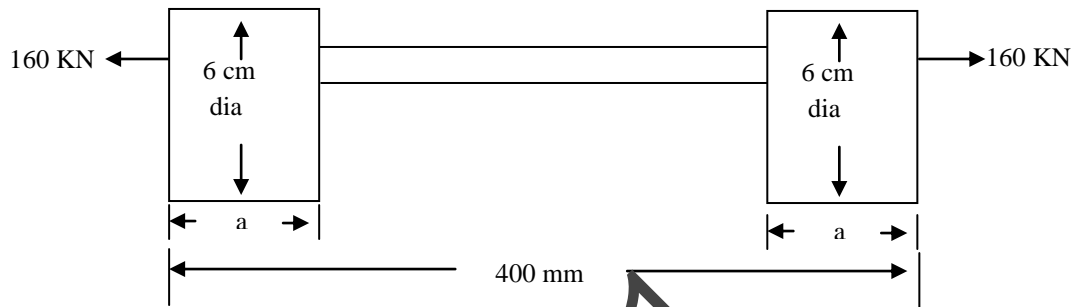

Fig. Q. 11(a)
8) The bar shown in fig. Q.11(a) is subjected to a tensed load of 100 kN of the stress in middle portion is limited to  $150 \text{ N/mm}^2$ . Determine the diameter of the middle portion. Find also the length of the middle portion if the total elongation of the bar is to be 0.2 mm young modules is  $2.1 \times 10^5 \text{ N/mm}^2$